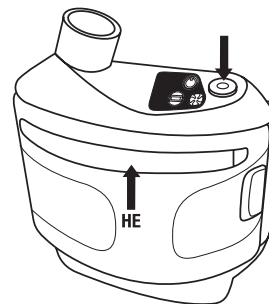

Fig. 11
- o The HE filter label must be visible through the filter cover window (Fig. 11).
To turn on the TR-300 motor/blower, press the power button (Fig. 11) on the top of the motor/blower. The unit will perform a self diagnostic. The green power on (Fig. 12-1), amber low battery (Fig. 12-2) and red low flow (Fig. 12-3) LEDs will flash 2 to 3 times and alarms will sound during this time. To turn off the motor/blower, press and hold power button for 2 seconds.
- o Ensure the HE filter is properly installed in the PAPR unit and that the cover latch is secure per these *User Instructions*. The HE filter label must be visible in the cover window (Fig. 11). The HE filter may be stored in place